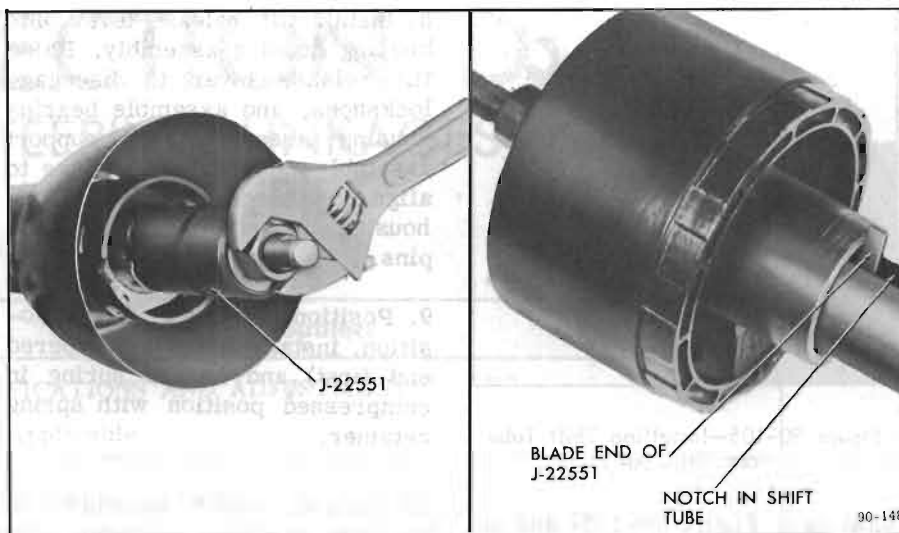

Figure 90-104—Forcing Shift Tube from Bowl
18. Insert the blade end of special tool J-22551 in notch of shift tube which is below the bowl key. Turn nut of J-22551 to pilot sleeve into upper end of shift tube, force the shift tube out of the bowl (see Figure 90-104) and withdraw shift tube from mast jacket.